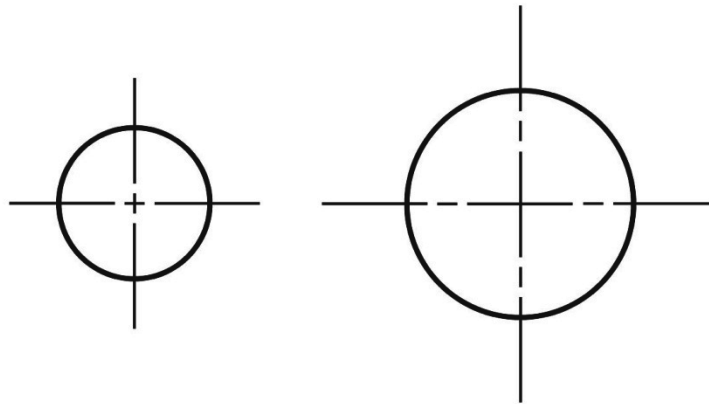

Figure 2.6-5: Crossing center lines.
- Rule 2. Center lines should intersect by crossing either the long dashes or the short dashes (see Figure 2.6-5).